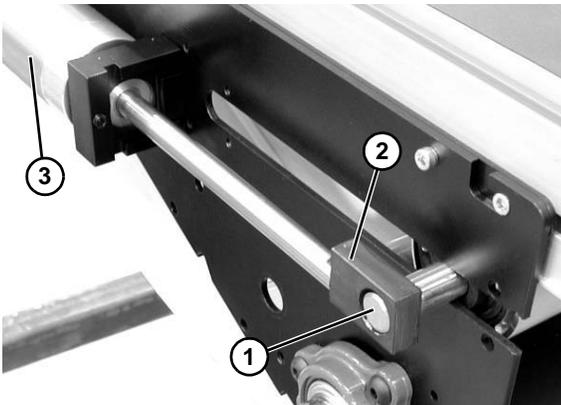

Figure 66
6. Push shaft (Figure 66, item 1) through block (Figure 66, item 2) on opposite side of center drive, slide block toward air cylinder (Figure 66, item 3).